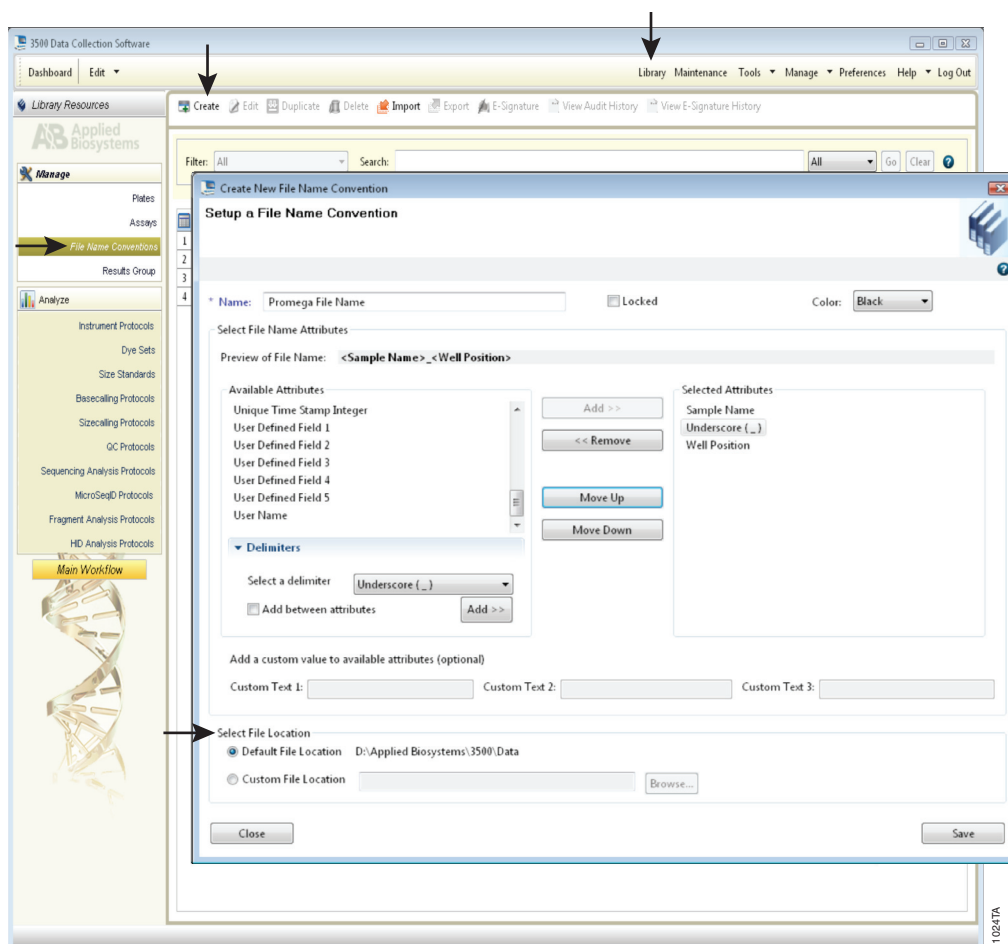

Figure 10. The Create New File Name Convention window.
- To create a new File Name Convention, navigate to the Library. Select “File Name Conventions”, then select “Create” (Figure 10). Select the File Name Attributes according to laboratory practices, and save with a descriptive name. Under “Select File Location” choose “Default File Location”, or choose “Custom File Location” and navigate to your custom location. Select “Save” then “Close”.